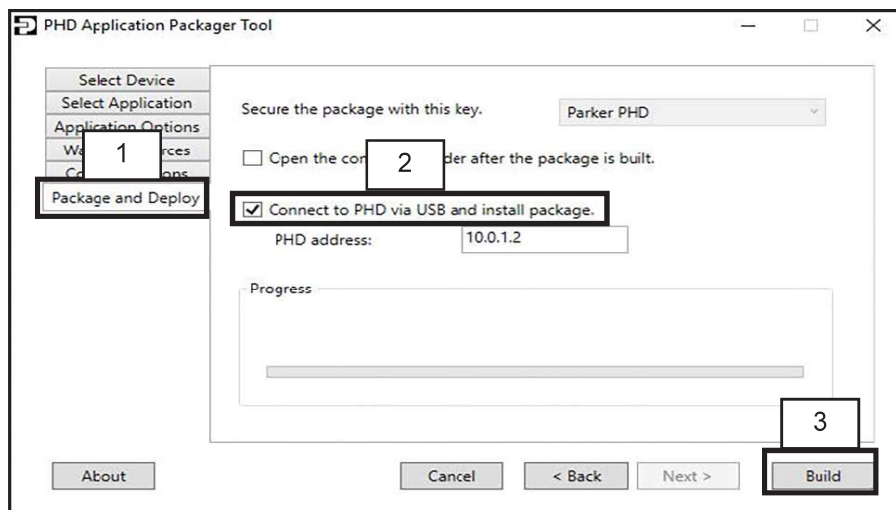

Figure 13 - Package and Deploy - Window
- 1.17. Select the **Package and Deploy** (1) tab and check the **Connect to PHD via USB and install package** (2) box and click on the **Build** (3) button. See Figure 13.